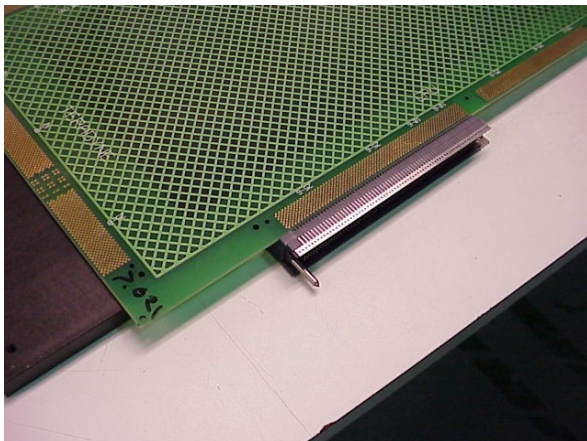

Figure 5
Step 1 Place the board upside down in a manner that will support the board and the connector, without damaging other components on the board (see Figure 5). The secondary stiffener is now on the top side, and can be removed.